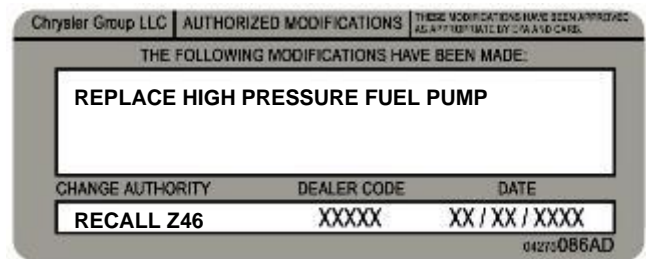

Figure 89 – Authorized Modifications Label
1. Type or print (with a ballpoint pen) the necessary information shown in (Figure 89) onto the authorized modifications Label.